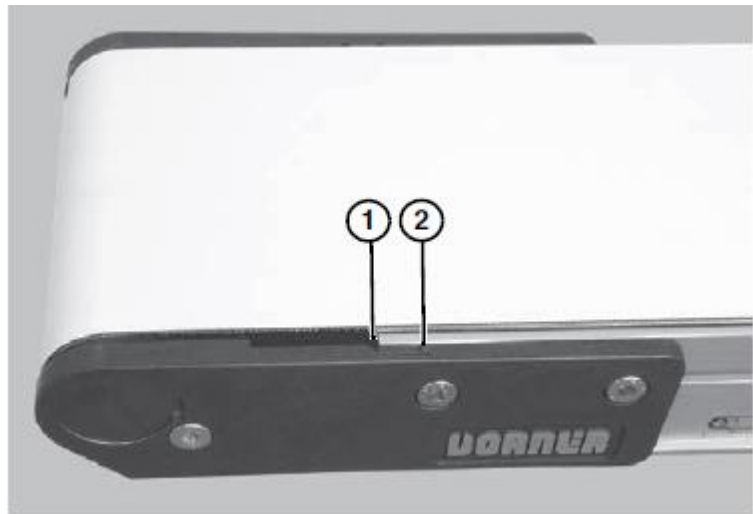

Figure 3-2
- Adjust head plate assembly so end of conveyor frame aligns with or between the head plate tensioning marks (Figure 3-2, item 1 & 2). Replace belt if proper tensioning cannot be obtained while aligning the end of the conveyor frame with or between the tensioning marks.